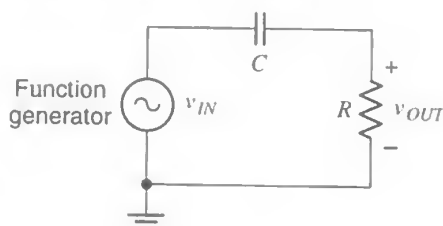

Fig. 5
Consider now the circuit of Fig. 5. Here the output is taken *across the resistor*. As before, at very low frequencies the capacitor will "act almost as an open circuit," which will virtually disconnect the output from the input. The output voltage can thus be expected to be very small at very low frequencies. At high frequencies, on the other hand, the capacitor will act almost as a short circuit, i.e. almost as if it were replaced by a direct connection from input to output, in which case the output voltage would be equal to the input voltage. Thus, for the circuit of Fig. 5, high-frequency input signals pass to the output, whereas low-frequency signals are rejected; for this reason, this circuit is said to be a *high-pass filter*. The voltage gain magnitude  $G$  can be defined again as above. When the frequency of the input is equal to  $f_c$ , where  $f_c = 1/(2\pi RC)$ ,  $G$  takes the value of  $1/(\sqrt{2}) \approx 0.707$ , just as in the case of the low-pass filter. The quantity  $f_c$  is again called the cutoff frequency of the filter. At this frequency, the output leads the input by  $+45$  degrees.
9. Now build the high-pass filter of Fig. 5. Use  $R = 16 \text{ k}\Omega$  and  $C = 10 \text{ nF}$  as before. Vary the frequency of the input signal over a wide range. Observe qualitatively the amplitude of the output. Is your observation what you expected, and does it justify the name "high-pass filter"?